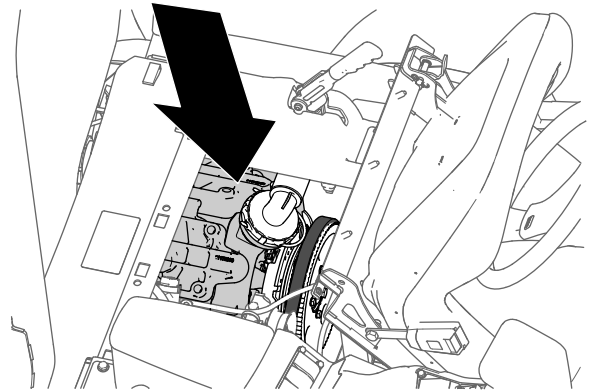

**Figure 23**
11. Adjust the agitation-bypass valve (Figure 23) on the backside of the agitation valve until the pressure reading on the gauge is 6.9 bar (100 psi).
9. Adjust the master-section-bypass handle to control the amount of agitation occurring in the tank (Figure 23).